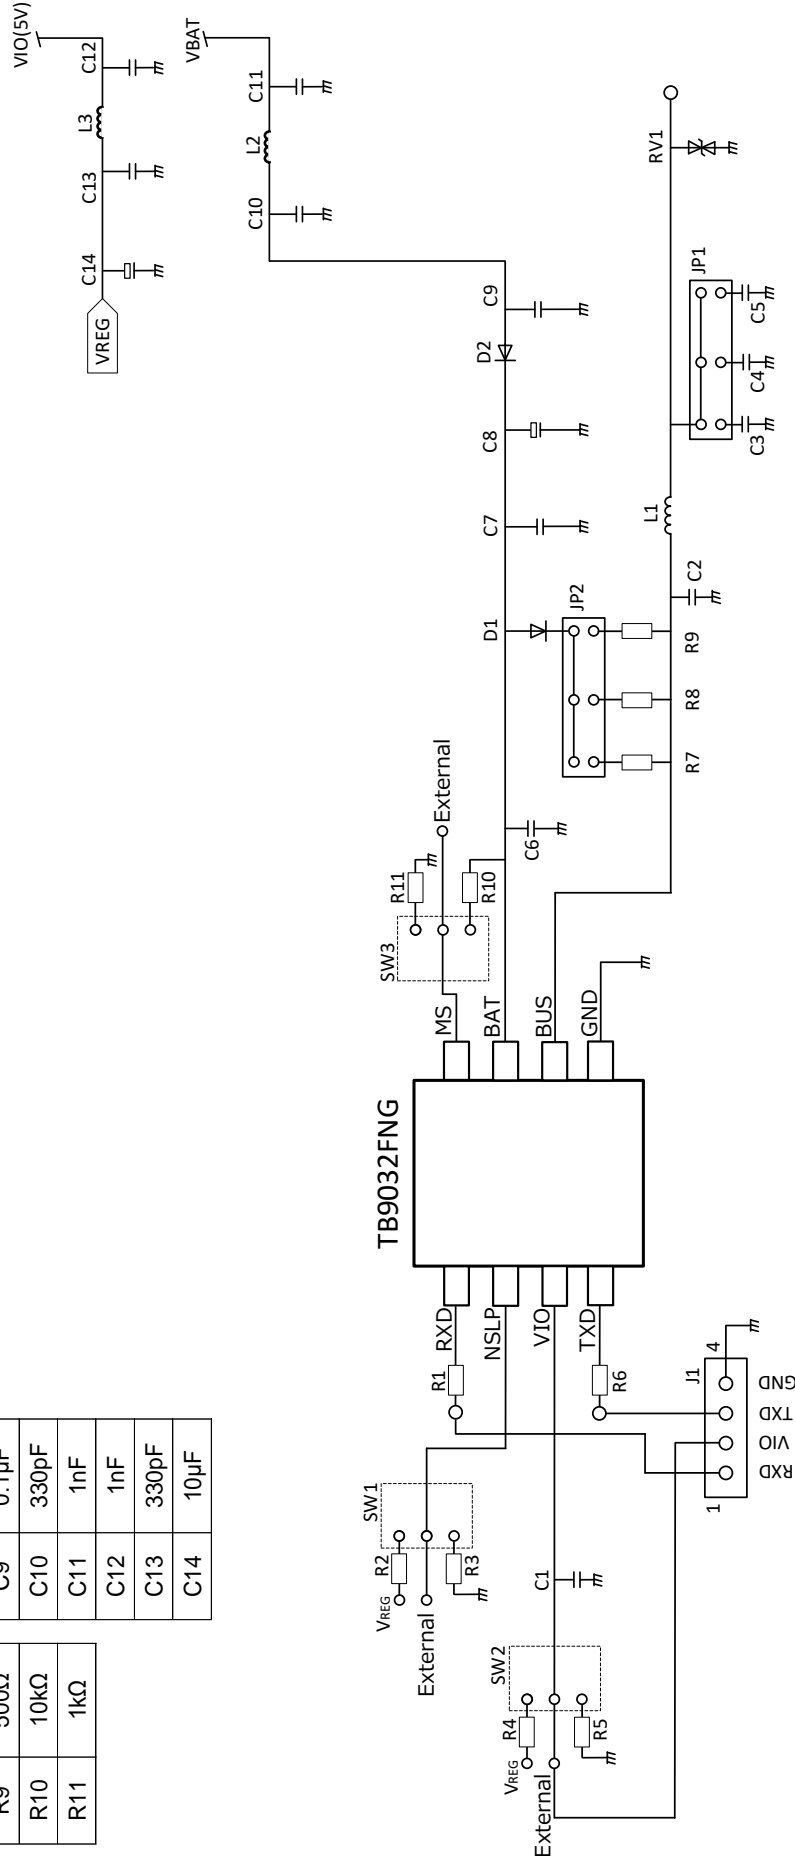

Figure 8.2 Evaluation board circuit diagram
•Figure 8.2 shows the evaluation board circuit diagram.